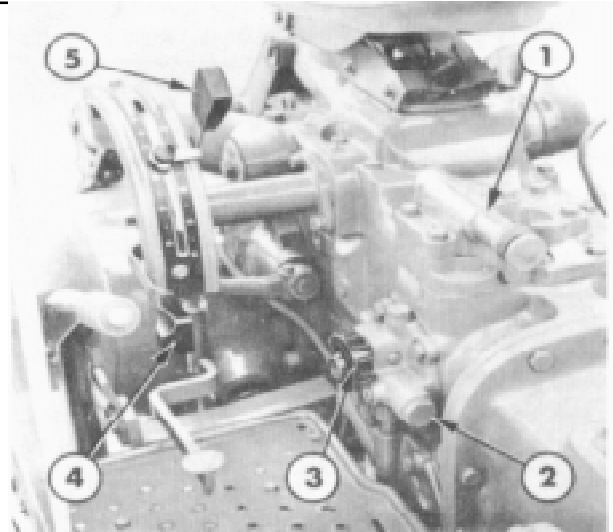

Figure 11
Flow control valve is manually operated and controls the volume of oil flowing to the lift cylinder or auxillary equipment. The valve is situated on the right-hand side of the rear axle centre housing. By rocking the flow control valve knob (Figure 11) in the forward position gives a slowflow (S) and a fast flow (F) rocking the knob in the rearward position.